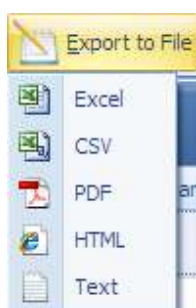

Figure 6.8 Export to File menu
- ⇒ There are five file formats available: Excel, CSV, PDF, HTML and Text (Figure 6.8).